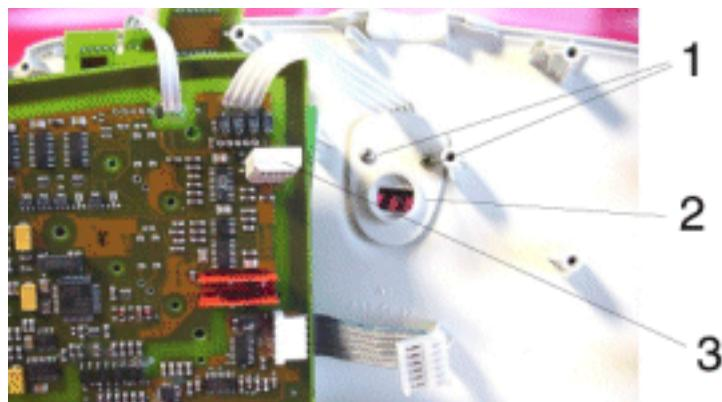

Fig. 37 View of the sensor unit
14. Push temperature sensors of WT2 Sensor PCB into sensor unit and secure cover (2) with screws (1), see Fig. 37 (Note: The tightening torque of the nuts is 0.5 +0.1 Nm!).
15. Insert (optional) humidity sensor (1) with air inlets pointing downwards into socket of new WT2 Sensor PCB.